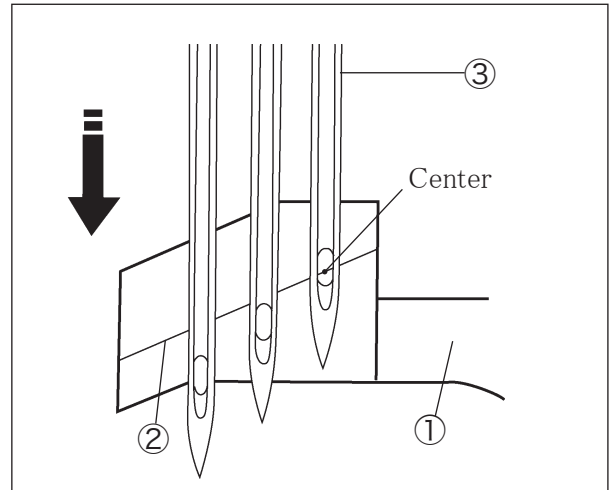

Fig. 6-24 VE2700-8 class
When the needle bar is at the lowest point, align the line ② of the needle guard (rear) ① with the center of the needle eye of the right needle ③. (Fig. 6-24)